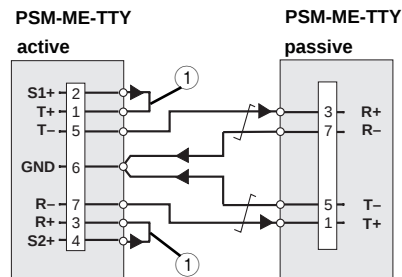
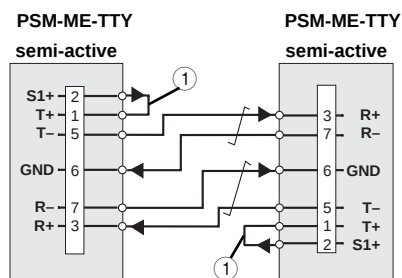

Fig. 13a
Fig. 13b
The desired operating mode **active**, **passive** (fig. 13a) or **semi-active** (fig. 13b) is set using external insertion bridges ① is determined scheme of wiring (bridges are included in the scope of supply).